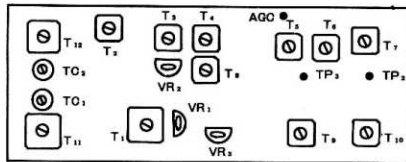
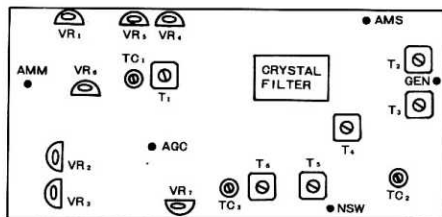

Fig. 18
Fig. 19
2) Adjust the SSG generator to produce a 145.0 MHz signal at a level anywhere between 10 and 20 dB and feed this signal into the transceiver through its antenna terminal, as shown. Throttle down the SSG output gradually until AGC disappears. Adjust T4, T5 and T6 (of the GEN unit, Fig. 19), T1, T2, T3, T4, T5, T7, T11 and T12 (of the RX NB unit, Fig. 18) in such a way that the pointer of the AF vacuum-tube voltmeter will deflect to the farthest possible position on the scale. Hold the SSG output always at such a level as will not cause the "S" meter pointer to deflect
- 1) Connect the vacuum-tube voltmeter to TP3 (Fig. 18).
- 3) Minimize the DC voltage at TP3 by adjusting T8, T9 and T10 (Fig. 18).
- 1) Adjust VR2 (Fig. 18) to make the pointer of this meter stay at "0" on the scale in the condition of non-reception of the signal.
- 3) Adjust VR1 (Fig. 18) to deflect the meter pointer to "9". Repeat the process, steps 1) to 3), two or three times.
- 2) Adjust VR7 and TC3 (Fig. 19) to minimize and equalize the "S" meter deflection for the two sideband signals, USB and LSB.
- 2) Adjust VR3 (Fig. 18) in such a way that the RF meter pointer will deflect to "7" (S9 position).
- 1) Referring to Fig. 19, connect the frequency counter and RF vacuum-tube voltmeter to the GEN terminal.
- 2) With MODE in FM position and STANDBY (STBY) in SEND position, adjust T3 (Fig. 19) to maximize the RF output voltage.
- 3) Adjust TC2 (Fig. 19) to obtain a frequency of 10.700 MHz.
- 6) If the frequency deviation is noted to be too narrow, enlarge it to 5 kHz by adjusting VR3 (Fig. 19).
- 1) Connect the RF voltmeter to the GEN terminal shown in Fig. 19.
- 2) With MODE set in CW position and STBY in SEND position, adjust T1 and T2 (Fig. 19) to maximize the RF voltage as read on the voltmeter.
- 4) Adjust VR5 (Fig. 19) to obtain the same output level as the FM output level previously noted.
- 5) With MODE left in AM position, adjust VR4 (Fig. 19) to obtain a 145-MHz output of 5 watts.
- 7) Supply a 1.5-kHz AG output of 2 mV, and adjust VR1 (Fig. 19) so that an AF voltage of 200 V will be read at the AMM terminal (Fig. 19).